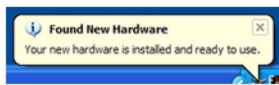

Figure 15: Desktop Notification for Driver Installation
1. Connect a USB Cable from the PC to the WCBR (Wireless receiver). The HID driver will self-install and prompt you when the process is complete (See Figure 15).